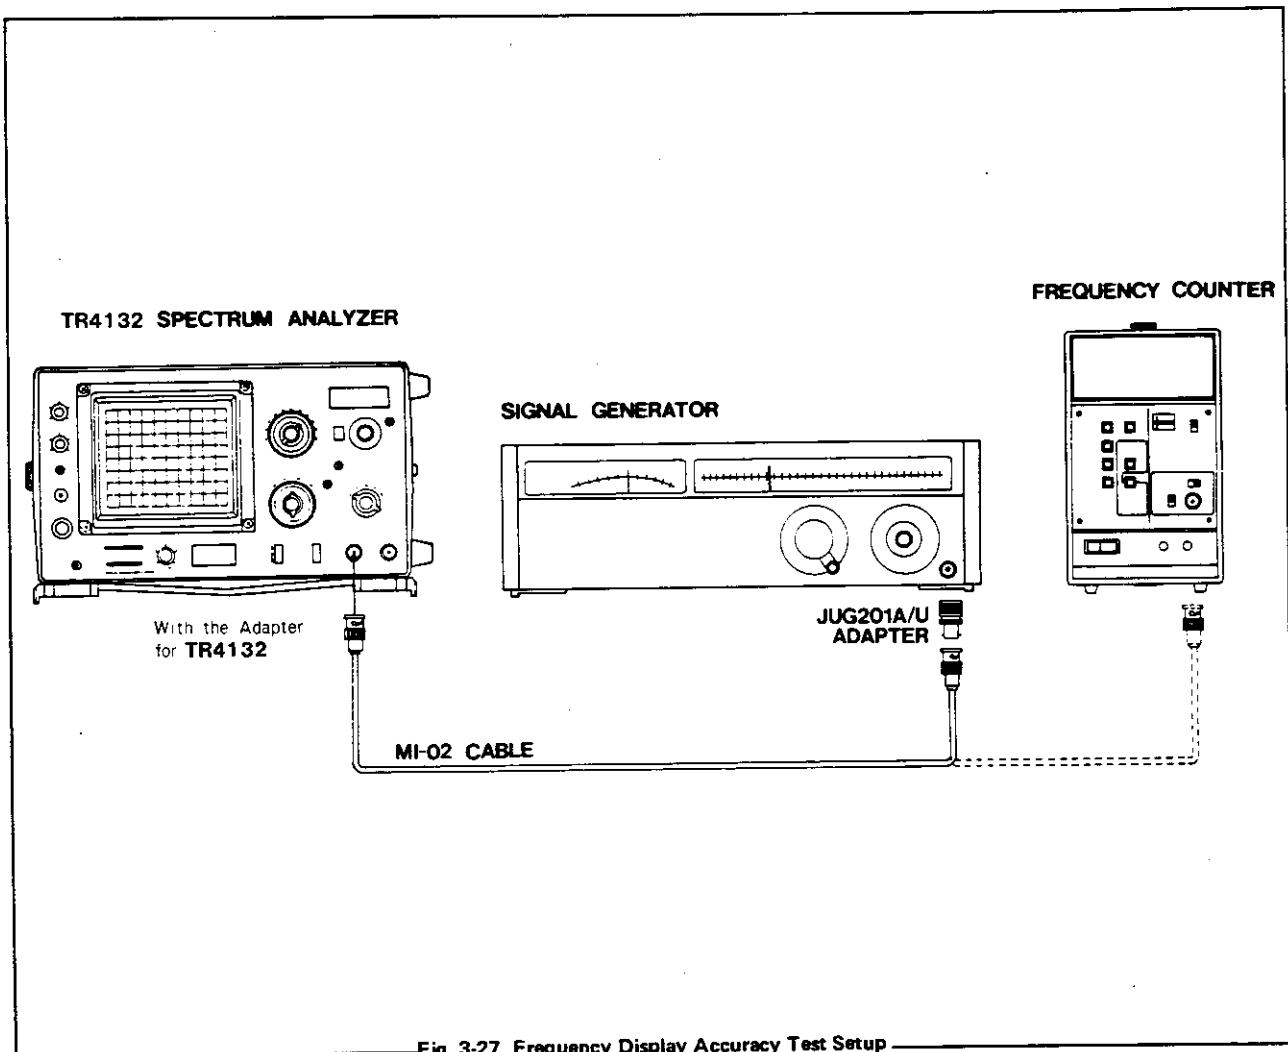

Fig. 3-27 Frequency Display Accuracy Test Setup
- (1) Set the Signal Generator output level to  $+120\text{dB}\mu$  and adjust the output frequency to  $100\text{MHz} \pm 50\text{kHz}$  with the Frequency counter.
- (2) Connect the Signal Generator output to **INPUT** of the instrument as shown in [Fig. 3-27]
- (3) Reset respective controls from the initial settings (Para 3-3-1-(3) ) as follows:
- (4) Adjust **TUNING** to center the zero frequency (Local feed through)
- (5) Reset **DISPERSION/DIV.** to  $100\text{MHz}/\text{DIV.}$  and return it to  $5\text{MHz}/\text{DIV.}$
- (6) Adjust **TUNING FINE** to keep the zero frequency to the center.
- (7) Adjust **ZERO ADJ.** if necessary so that **CENTER FREQUENCY** indicates  $100\text{MHz}$ .
- (8) Turn **TUNING** to locate the  $100\text{MHz}$  signal and its harmonics one after the other to the center. Repeat the same procedure to the 10th harmonic, and read respective indication on **CENTER FREQUENCY**.
- (9) Verify that the indication error for  $100 \times N$  (where  $N$  is the corresponding harmonic from 1st. to 10th.) is within  $\pm 10\text{MHz}$ .
- (10) Next, turn **TUNING** counter-clockwise and repeat the same procedure as in (8) and (9) above. Read the error and also verify that it is within  $\pm 10\text{MHz}$